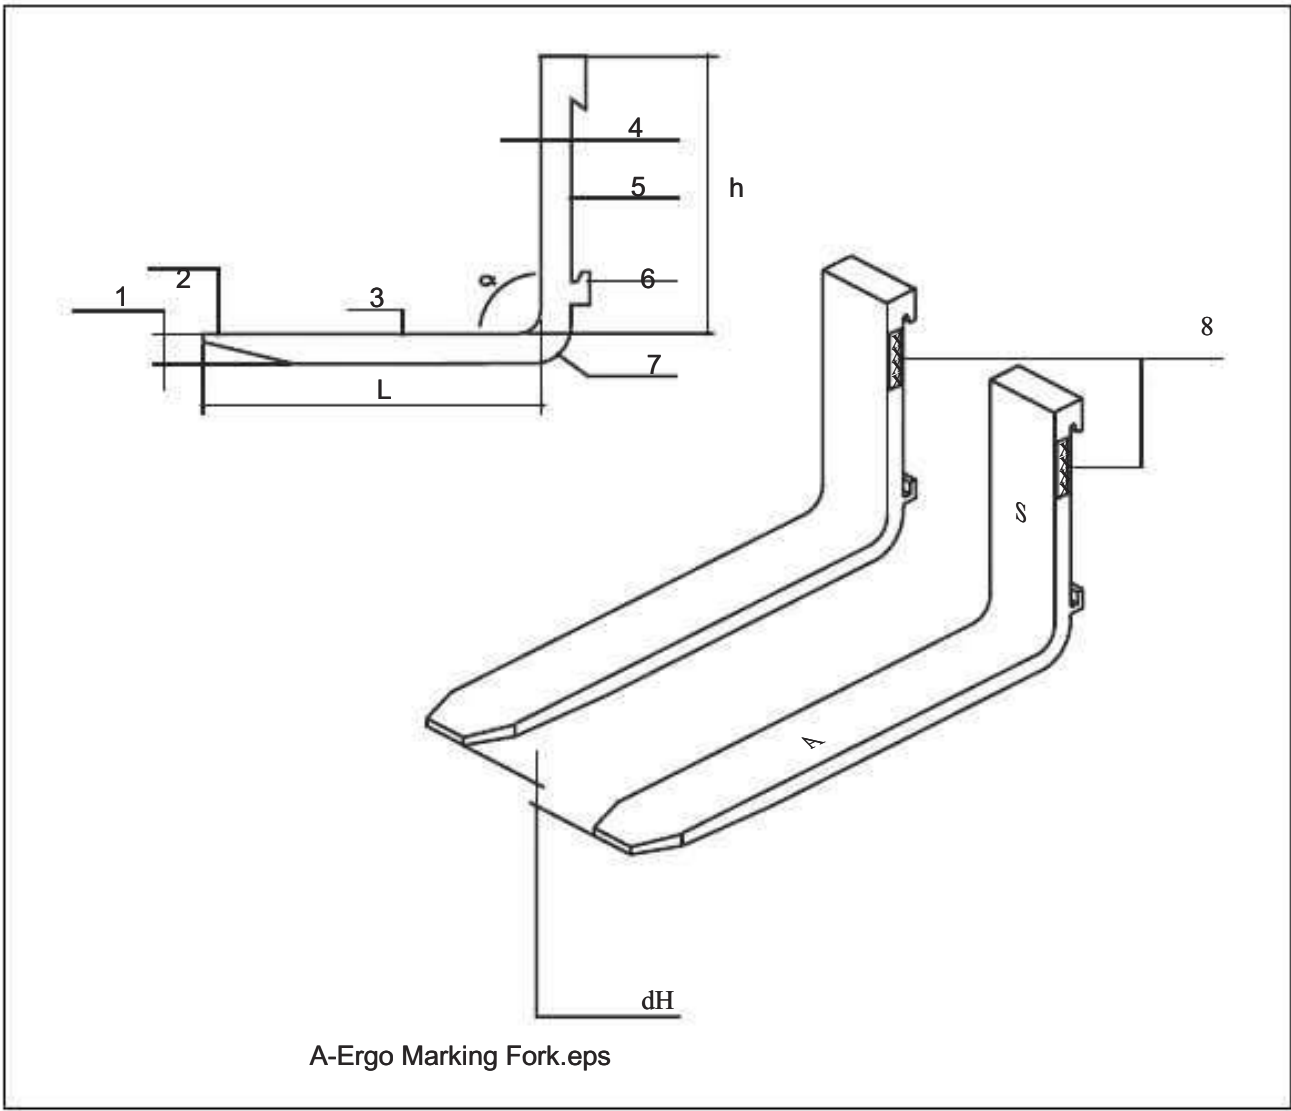

Figure 6.28 Fork designations
1. **Straightness of the blades and shanks:** Deviations from the straightness of the carrier surface and the support surface must not exceed 0.5% of the length of the blade and shank. See figure 6.28.
2. **Crack formation:** Check whether the forks are cracked. Check carefully around the heel and hooks. See figure 6.28.
4. **Fork angle:** The angle,  $\alpha$ , between the blade and the shank must be max 93 degrees. See figure 6.28.
5. **Difference in height between the tips of the forks:** The difference in height, dH, between the tips must not exceed 3% of the blade length. See figure 6.28.
7. **Markings:** The fork markings should be explicit and include the lifting capacity in kg for one fork and the distance to the centre of gravity in mm. See pos. 8 in figure 6.28.